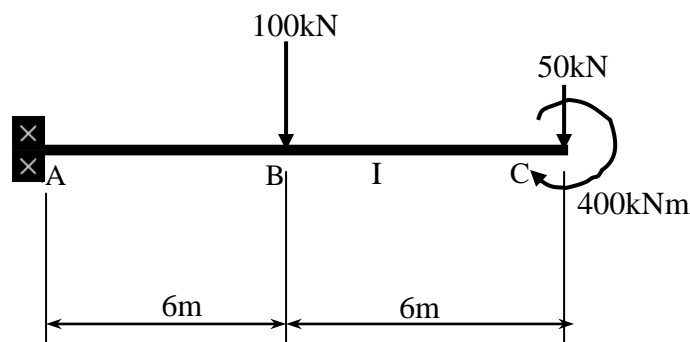

Figure 2
- (b) Figure 2 shows a 12m cantilever beam which carries concentrated loads of 100kN at B, 50kN at C, and a couple of 400kNm at C. Moment of inertia for the beam section is $I = 11400 \times 10^6 \text{ mm}^4$. By using method of virtual work, verify that maximum vertical displacement that will occur in the beam is less than 1/360 of the span length. Use $E = 200\text{GPa}$.